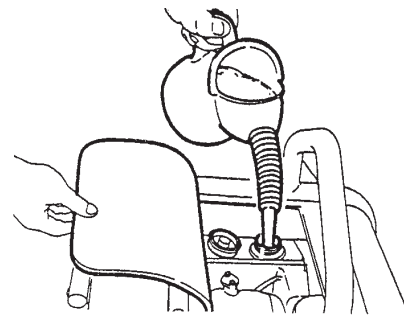

Figure 12. Refueling
- Visually inspect to see if fuel level is low. If fuel is low, replenish with diesel fuel (Figure 12).